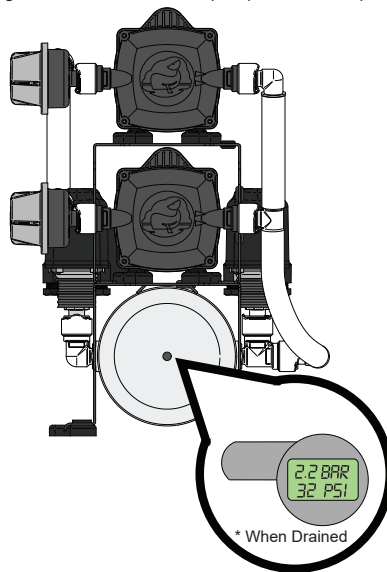

Figure 7 Valve Location For Annual Check
- Check accumulator tank pressure annually, as shown in Figure 7. Use hand or foot pump to increase pressure if required.